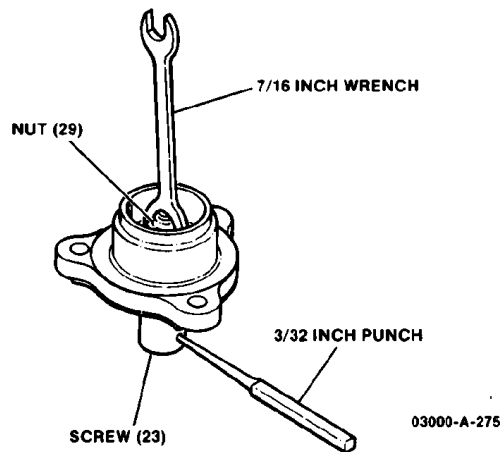

Figure 3-1. Disassembly of Bellofram Assembly
1. Remove three screws (1) from limiter cover(5). Carefully separate cover (5) from bellofram spacer (25).
2. Remove upper spring seat (6) and limiter spring (7). Lift off the bellofram assembly and remove bellofram guide (8).
3. Hold screw (23) with a 3/32 inch pin punch while removing 7/16 inch nut (29) (Figure 3-1).
(Refer to Figures 3-1 and 4-1.)
1. Apply a light coat of white petroleum jelly on piston side of bellofram (24). Install bellofram clamp screw (23) in bellofram (24) against the surface marked "piston side".
2. Place bellofram spacer (25) over bellofram (24). Lubricate both ends of bellofram inner spacer (26) with white petroleum jelly and install it on bellofram clamp screw (23).
3. Lubricate the bottom of bellofram piston (26) and install it in the side marked "piston side" on upper rolling bellofram (27). Place bellofram (27) and piston (26) on bellofram clamp screw (23).
4. Install nut (29) on bellofram clamp screw (23) (Figure 3-1).